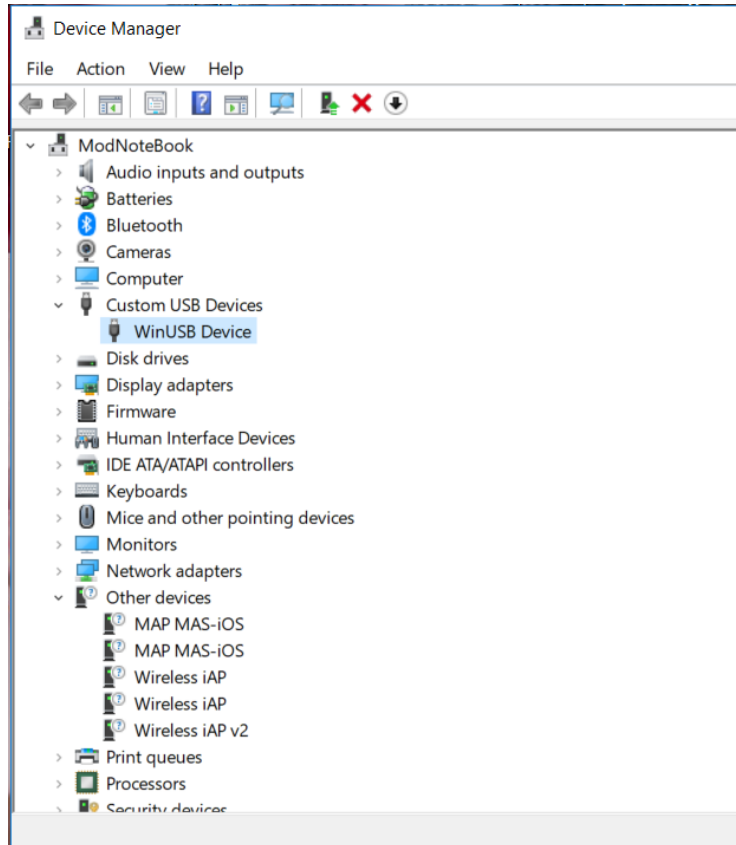

Figure 7-9 WinUSB device is shown in device manager after driver install successfully
8. Device driver install successfully then “WinUSB Device” will be shown in Custom USB Device as in Figure 7-9.